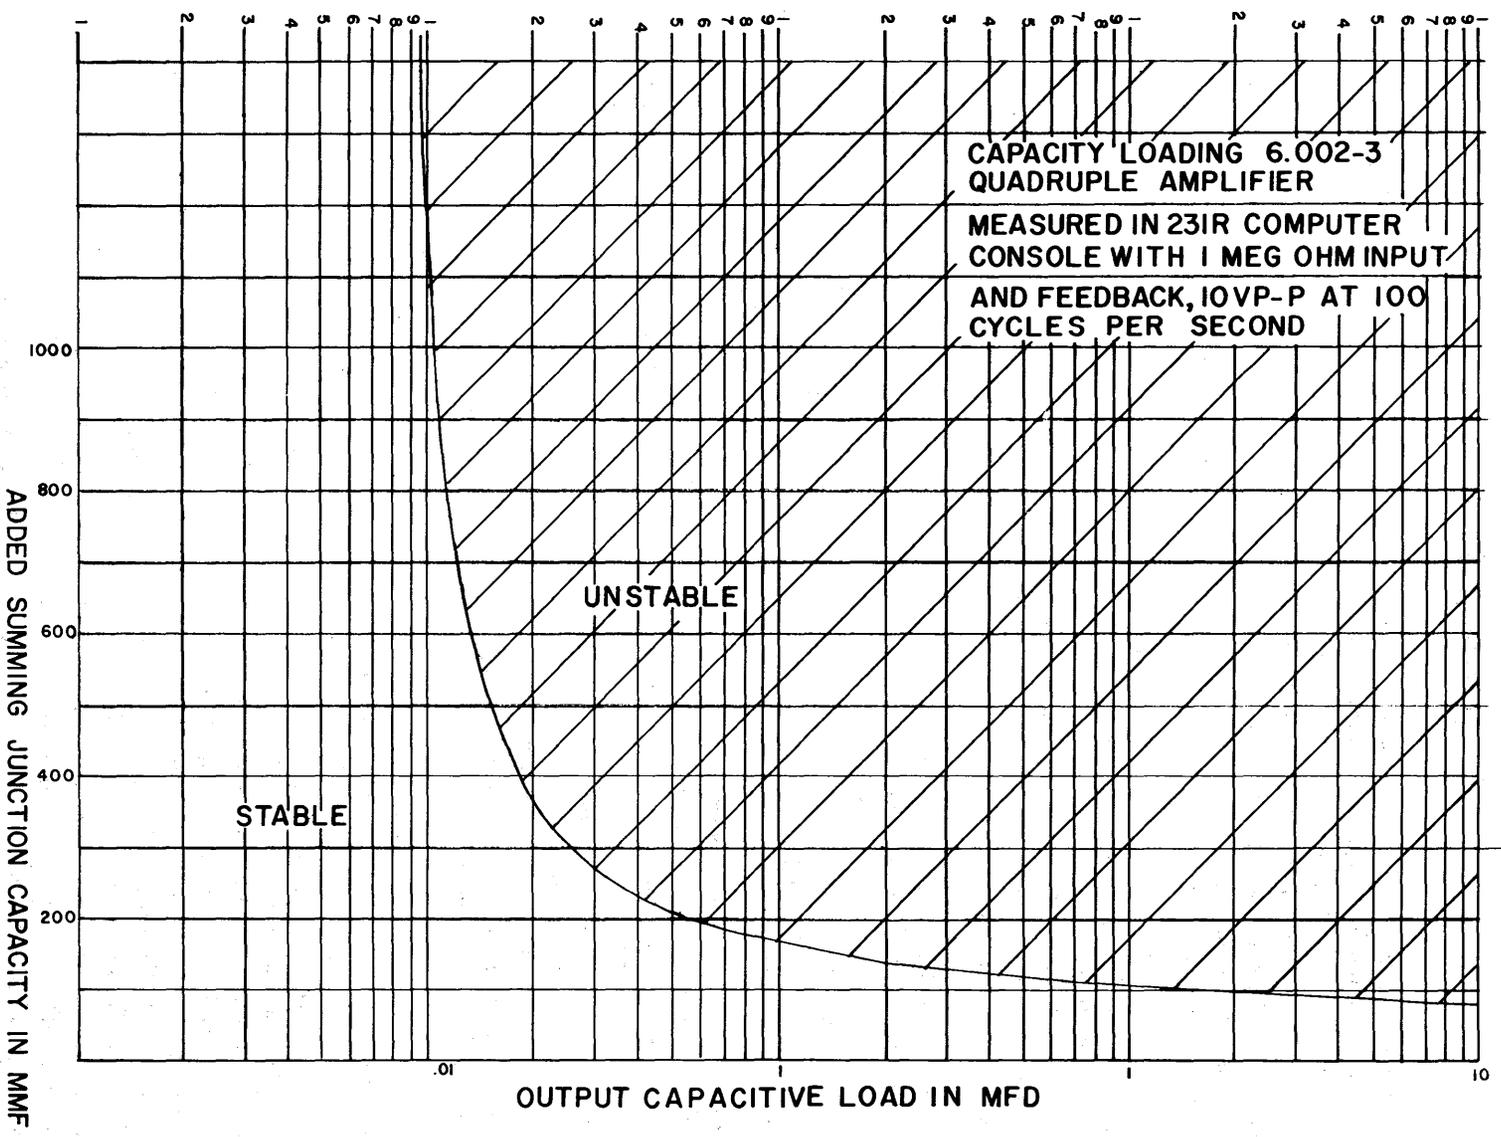

Figure 1. Capacity Loading, Amplifier 6.002-3
* See figure 1 for typical combination performance.